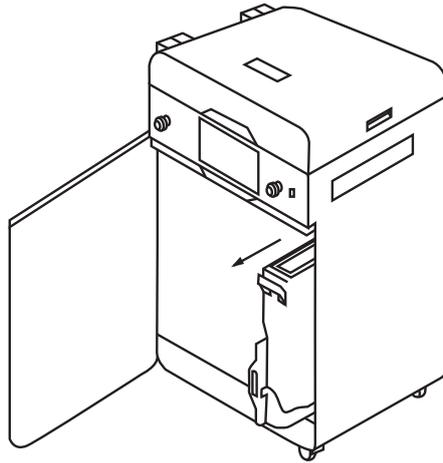

Fig. 4.1 Sliding out the overflow container.
7. Open the overflow door and slide out the drawers. (fig. 4.1).